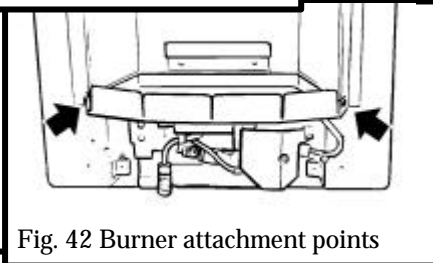

Fig. 42 Burner attachment points
13.5.5 Remove the burner assembly by removing the two fixing screws, one at each end of the burner tray (see figure 42). Carefully remove the burner assembly.